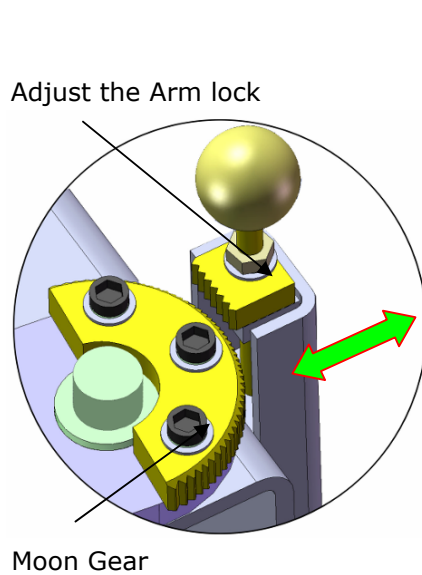

Fig. 30
3. Adjust the arm lock as direction of arrow (See Fig. 30)